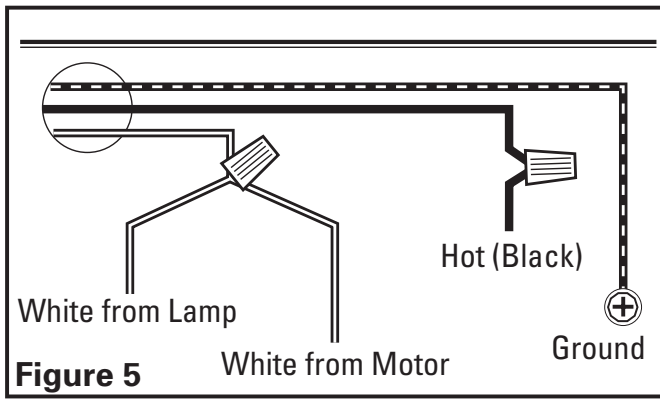

Figure 5
1. Connect the 2 loose White wires from the range hood to the White wire from the supply, and the loose Black wire from the range hood to the Black wire of the supply. Connect the ground wire (green or bare) from the supply to the green ground screw of the hood. Use approved methods for all connections (**Figure 5**).